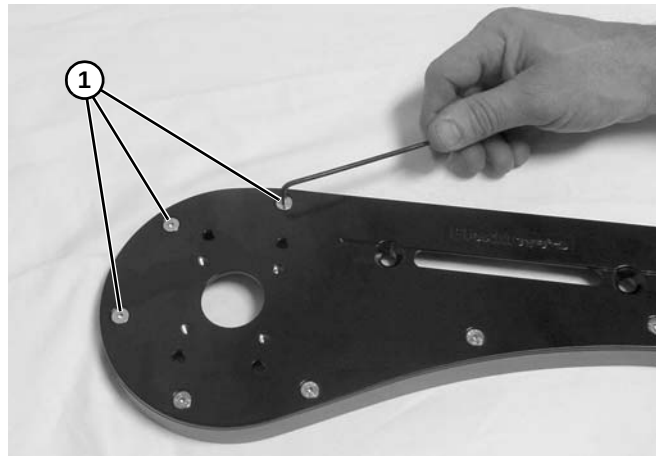

Figure 80
5. Remove three socket head screws (**Figure 80, item 1**).